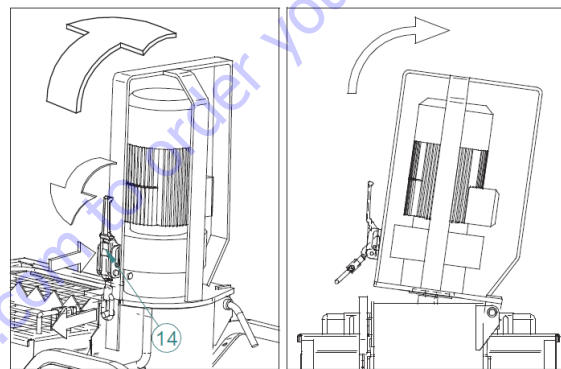

FIG.15
Disconnect the material pipelines from the delivery manifold. Detach the quick connector with safety device (ref. 14) and open the mixing chamber (fig. 15).